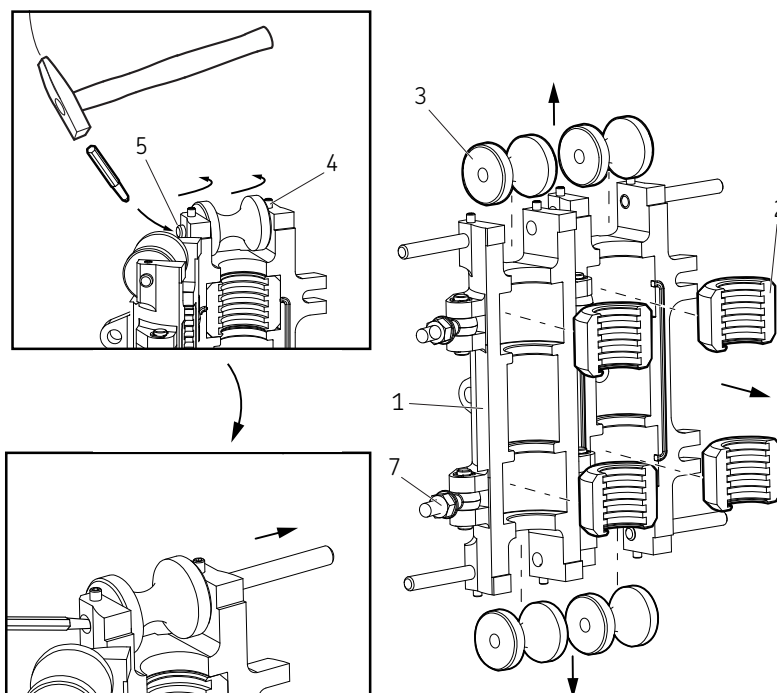

Fig. 4
For changing rollers/seals, see *Roller/seal replacement, Fig. 4, page 6.*
- Loosen eye bolts (7) on lubricator (1) (→ Fig. 4).
- Open lubricator (1).
- Using hex key, loosen hex screws (4).
- Tap out pin (5) using hammer and steel punch or similar tool.
- Remove roller (3).
- Remove seal (2) from seal cavity.
Seals (2) (→ Fig. 4) are designed for contact with wire rope to ensure lubricant penetration.
Leaving lubricator fixed to wire rope can damage seals (2) (→ Fig. 4, page 6).
- 5 Keep air flow regulator open until lubricator grease chamber (1) is full.
- 6 Close air flow regulator (14).